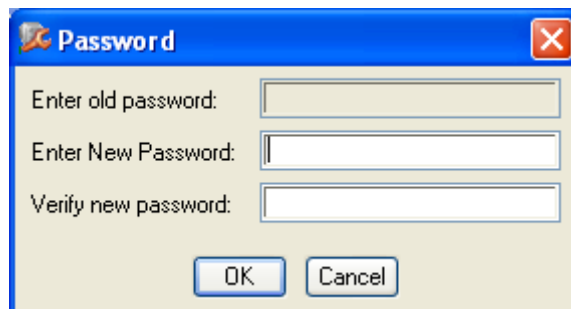

Figure 42. Password dialog box
2. Click **Set Password**. The Password dialog opens, see Figure 42.